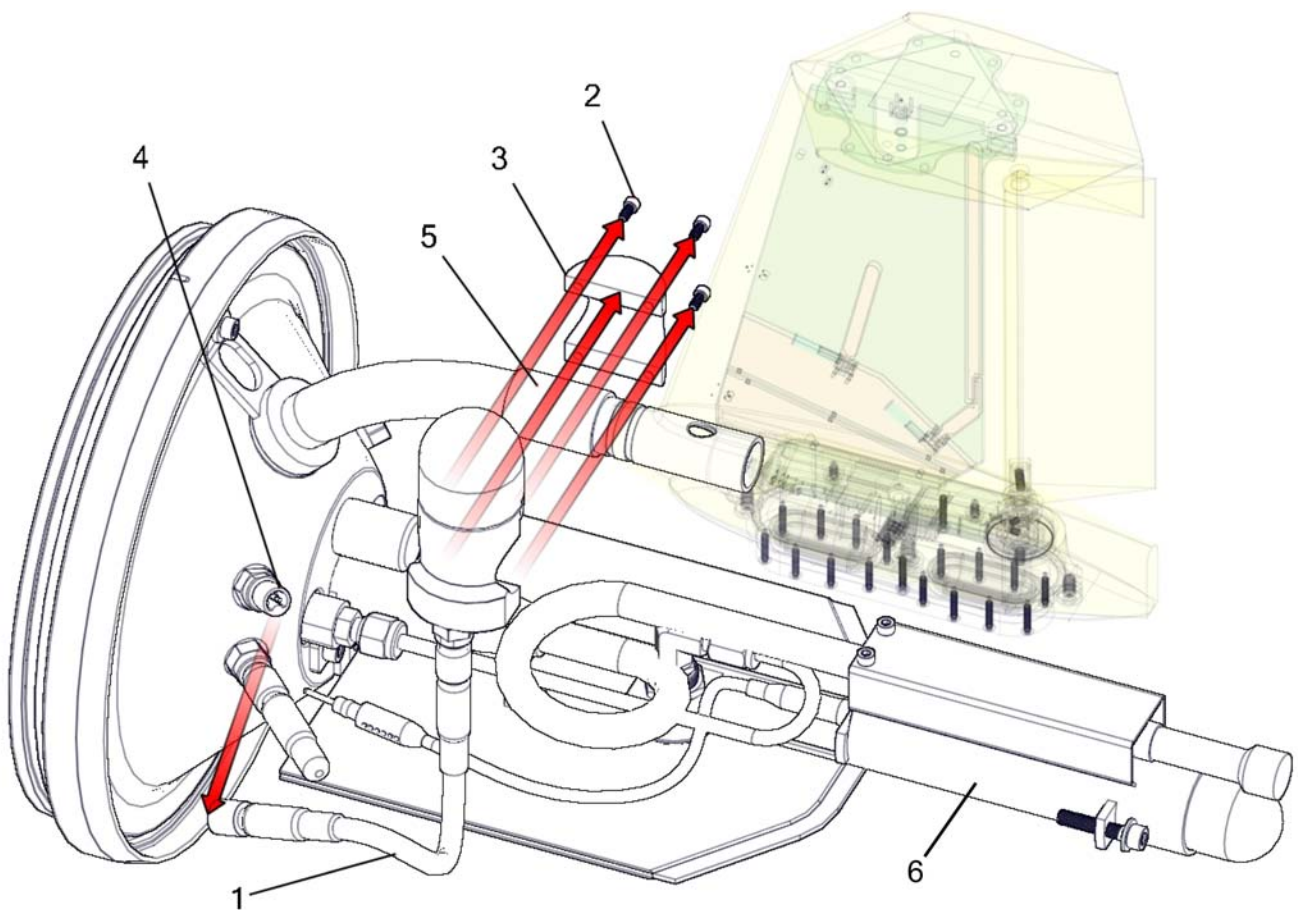

Figure 2-38 Strobe assembly.
1. Remove the four screws (Figure 2-38, Item 2) that secure the strobe assembly to the digifin channel (Figure 2-38, Item 6).
2. Remove the strobe clamp bracket (Figure 2-38, Item 3).
3. Remove the bushing (Figure 2-38, Item 5).
4. Remove the strobe impulse cable (Figure 2-38, Item 1) from the strobe connector (Figure 2-38, Item 4) on the aft end cap assembly.
1. Install the strobe impulse cable (Figure 2-38, Item 1) to the strobe connector (Figure 2-38, Item 4) on the aft end cap assembly.
2. Insert the bushing (Figure 2-38, Item 5) and install the strobe clamp bracket (Figure 2-38, Item 3) with the four screws (Figure 2-38, Item 2) that secure the strobe assembly to the digifin channel (Figure 2-38, Item 6).